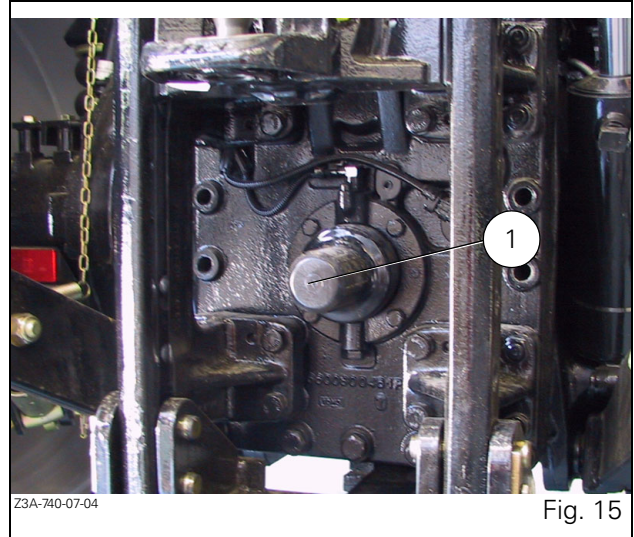

Fig. 15
- Ensure that the PTO shield (1) is in place when the PTO driveline is not in use (Fig. 15).